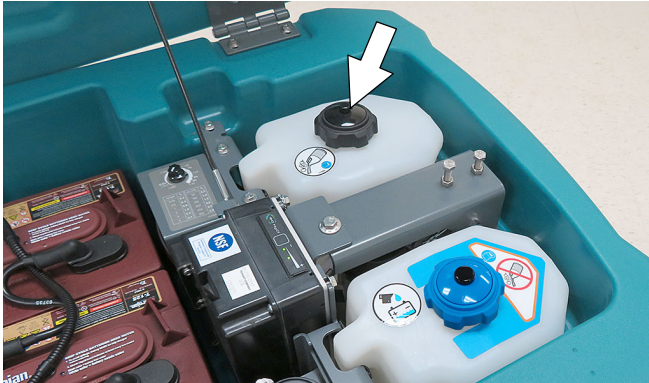

FIG. 27
1. Lift the recovery tank to access the severe environment detergent tank (Figure 27). Drain recovery tank before lifting tank.